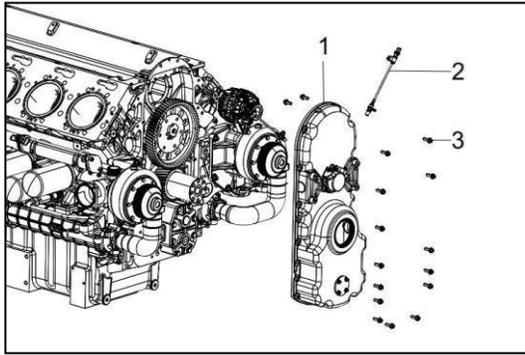

Figure 89
5. Disconnect the connecting wiring harness of speed sensor (Figure 89, 2). Remove the speed sensor if necessary.
6. Remove the bolts (Figure 89, 3) that retain the gear case cover to the cylinder block and oil pan.
- Remove the gear case cover (Figure 89, 1).